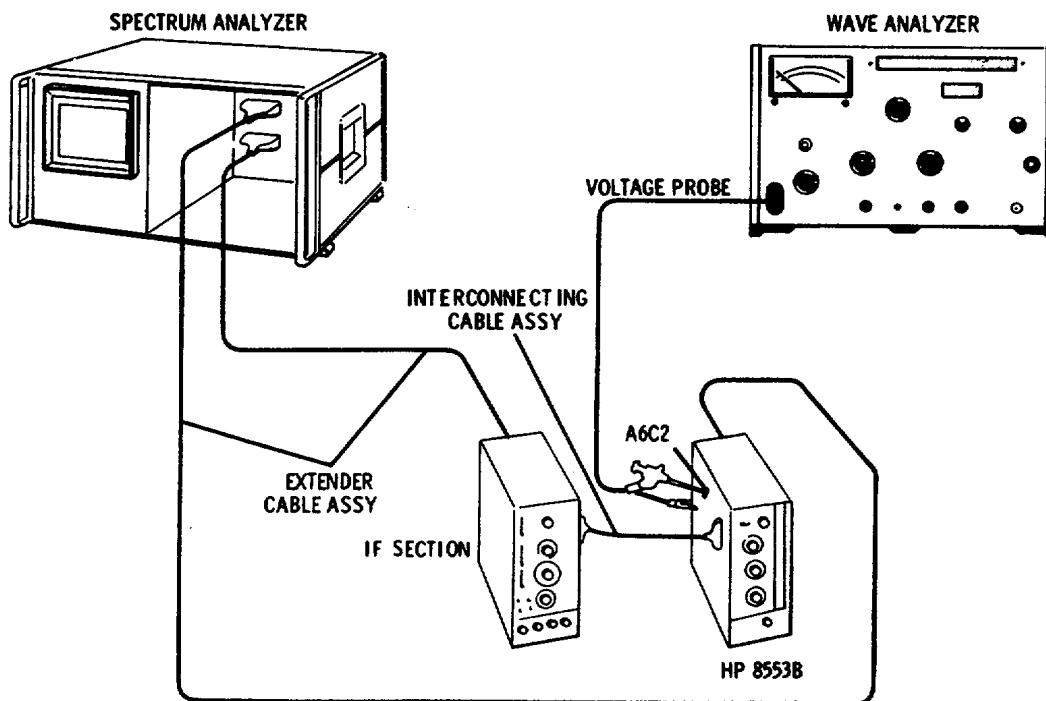

Figure 5-14. APC 100 kHz Rejection Adjustment Test Setup
- If the 100 kHz residual signal is > -100 dBm, then connect the test setup shown in Figure 5-14, and make the following control settings: